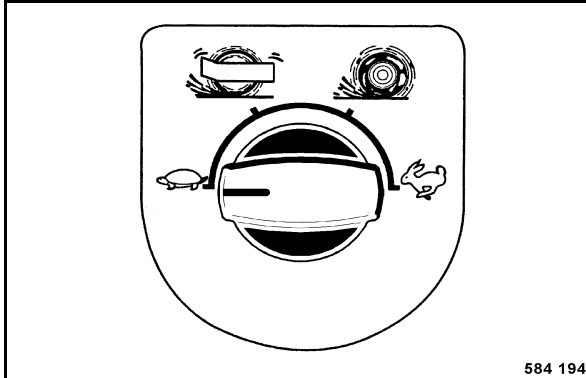

Fig. 93
- Pre-select working speed (Fig. 93).